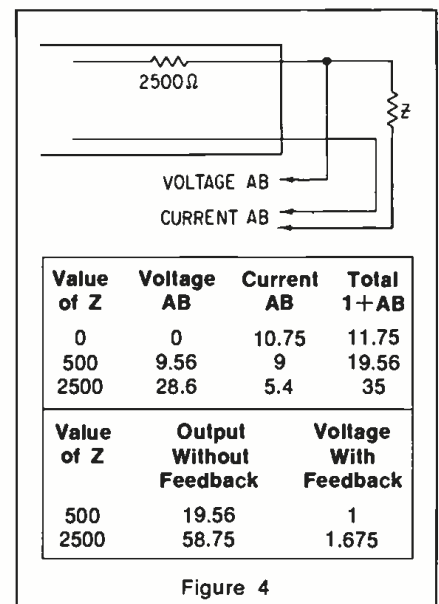

Figure 4
Figure 2. Similar deduction with current feedback: (A) what feedback works with; (B) the effect. Figure 4. Tabulation of values and results of combination feedback designed to make internal impedance equal external nominal. The values are not calculated in the order shown, but as described in the text.
First assume the current feedback with nominal load connected uses an AB factor of 9 (FIGURE 4). This is with a total output circuit impedance of 3,000 ohms, 2,500-ohms internal and 500-ohms external. A short circuit will reduce the total load to 2,500 ohms, increasing current feedback to an AB factor of 6/5 x 9=10.75. On short-circuit there can be no voltage feedback. So (1 + AB) at short circuit is 11.75.